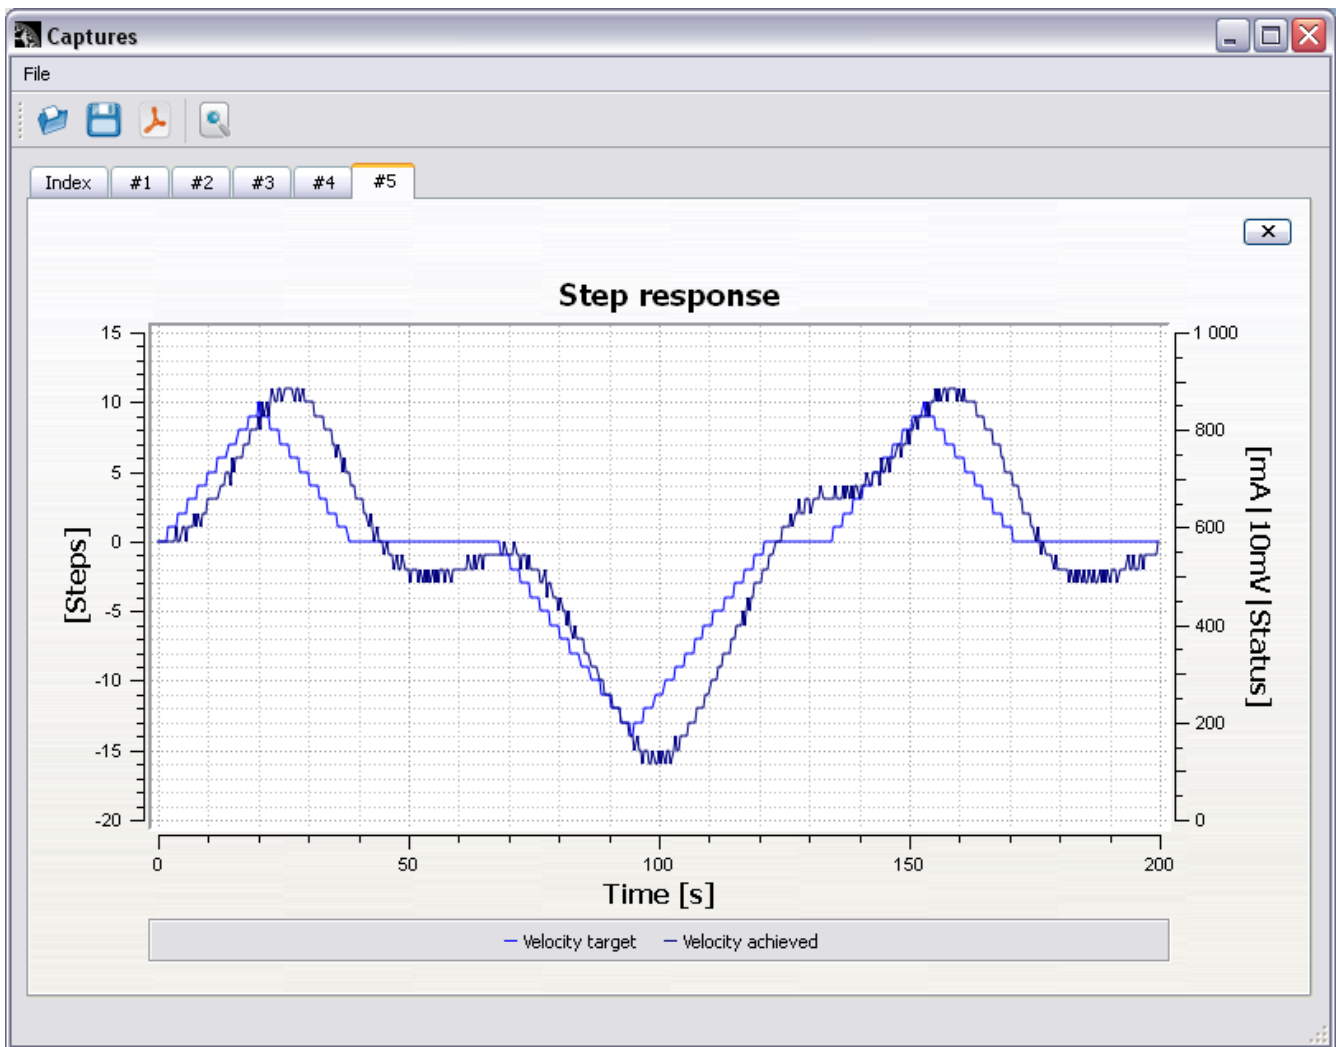

Figure 5: Too low velocity P-gain value
- If you are getting result that resembles Figure 5, (significant lag between target and achieved) increase **Velocity P** gain value, Return to step 4.